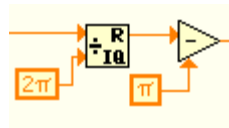

Figure 9.4: LabVIEW modulus and bias blocks
6. Add modulus and bias blocks, as shown in Figure 9.4, to measure *inverted pendulum angle*, defined as Equation 9.1.